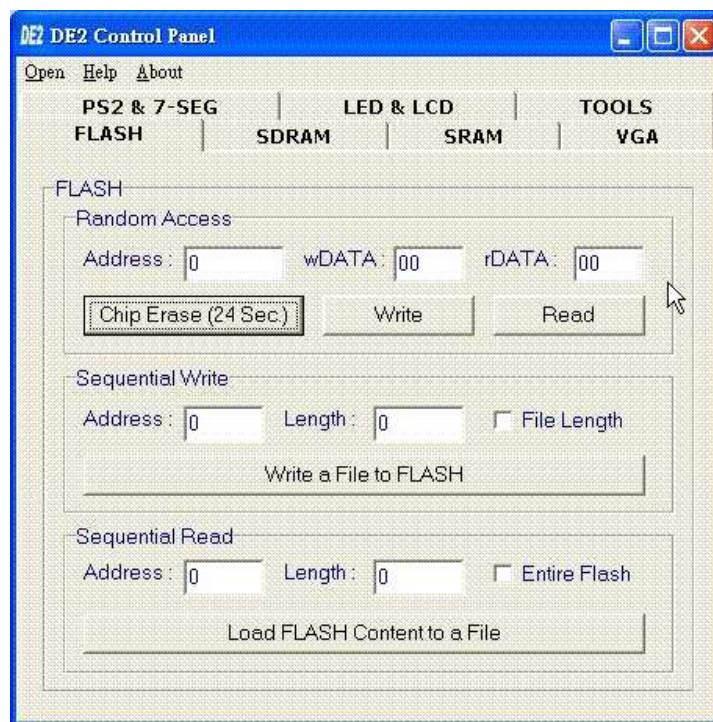

Figure 11.4. Flash Memory Control Page
1. Click on Button Flash to change to Flash Memory Control Page (Refer to Figure 11.4).
- ✓ Refer to Figure 11.4 and 11.6, use the Flash Programmer to erase the Flash memory and then write a music file into the Flash memory. Please use the 1Mbyte music file (cdda1m) in **C:\IDE2\Binary_Raw_Data**